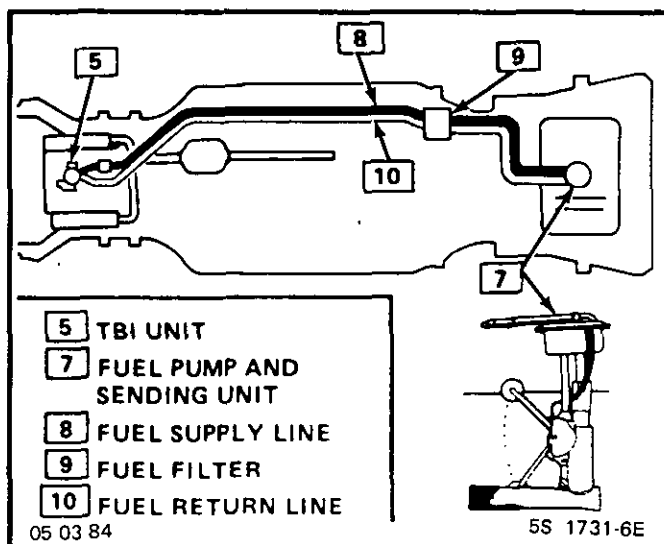

Figure C2-2 - Fuel Supply System (2.5L Typical)
The fuel control system (Figure C2-2) starts with the fuel in the fuel tank. An electric fuel pump (7), located in the fuel tank with the gage sending unit, pumps fuel to the TBI (5) thru the fuel supply line (8), then thru an in-line fuel filter (9). The pump is designed to provide pressurized fuel